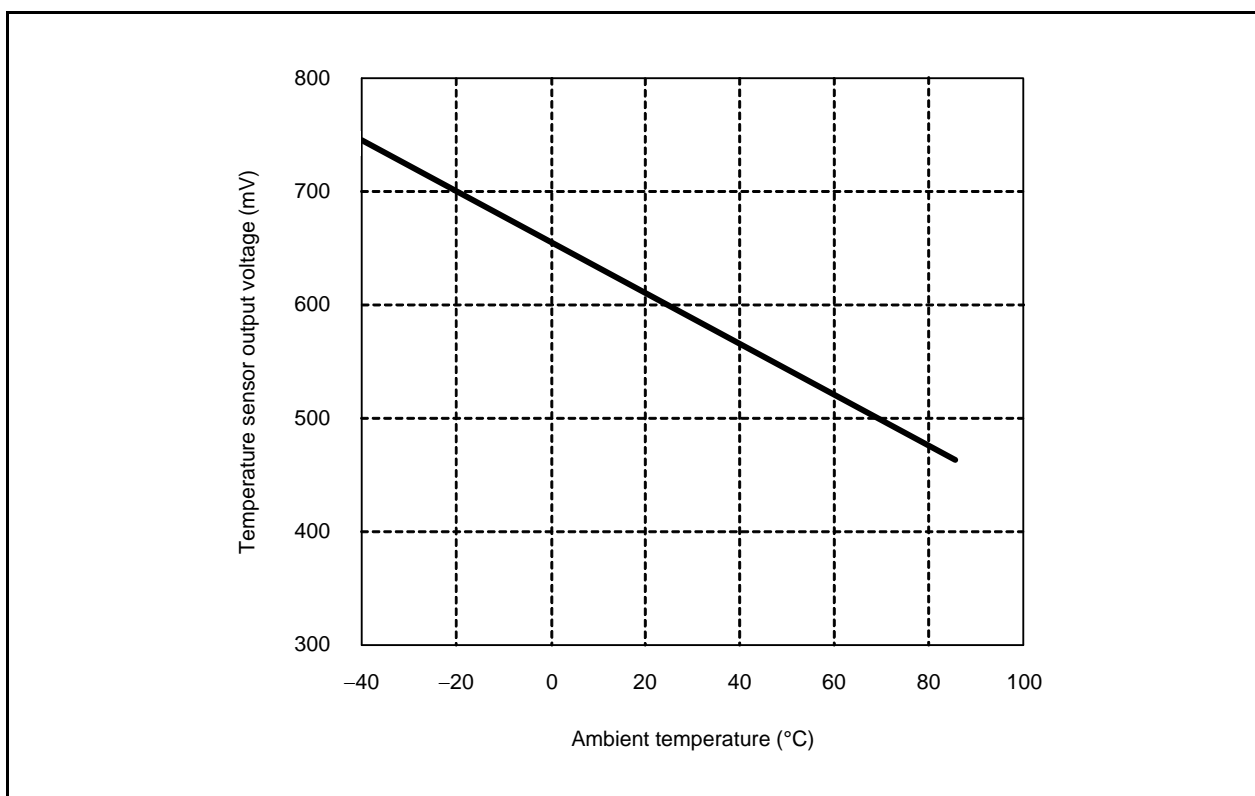

Figure 26.10 Temperature Characteristics of Temperature Sensor Output Voltage When Gain 1 is Selected (Typical Characteristics)
Table 26.9 lists the Temperature Sensor Performance, and Figure 26.10 shows the Temperature Characteristics of Temperature Sensor Output Voltage When Gain 1 is Selected (Typical Characteristics).
- The A/D conversion result of the temperature sensor output voltage will include fluctuations in the output voltage and errors in the A/D converter absolute accuracy. This may cause discrepancies in the Temperature Sensor Performance (refer to Table 26.9) or the Temperature Characteristics of Temperature Sensor Output Voltage When Gain 1 is Selected (Typical Characteristics) (refer to Figure 26.10).